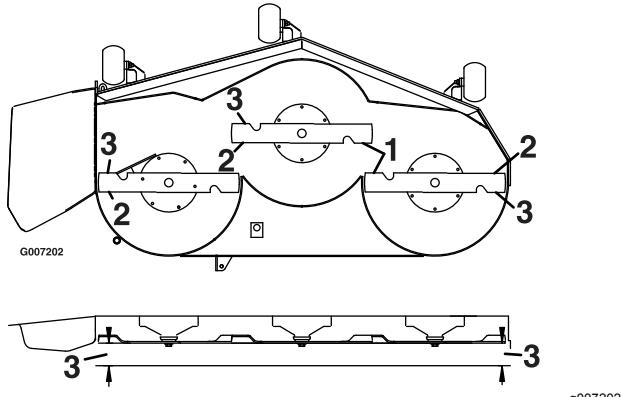

Figure 61
- Measure between the outside cutting edges and the flat surface (Figure 61).